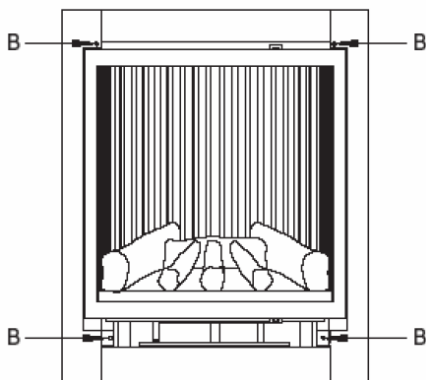

Fig. 11
- 2) Remove the outer frame by removing screws B (See fig. 11) and taking away the frame.
- 3) To open the door, remove the screws C (see fig. 11). The door opening is limited; Remove the door for more space (lift and pull forward). Be sure that there are no fingerprints on the glass! It is not possible to remove those prints once they are burned in the glass.